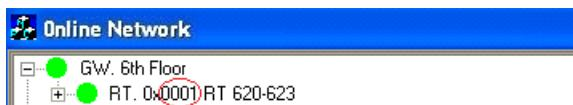

Figure 35
- Choose the applicable **Network Address** in the drop-down-menu; the network addresses are shown in the **Online Network** tree of SysMon, see example in Figure 35.